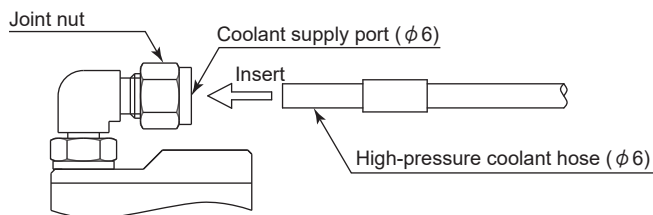

Fig. 21
- (1) Insert the high-pressure coolant hose (diameter  $\phi 6$  mm) fully into the coolant supply port (diameter  $\phi 6$  mm), and turn the joint nut clockwise to tighten it. (Fig. 21)